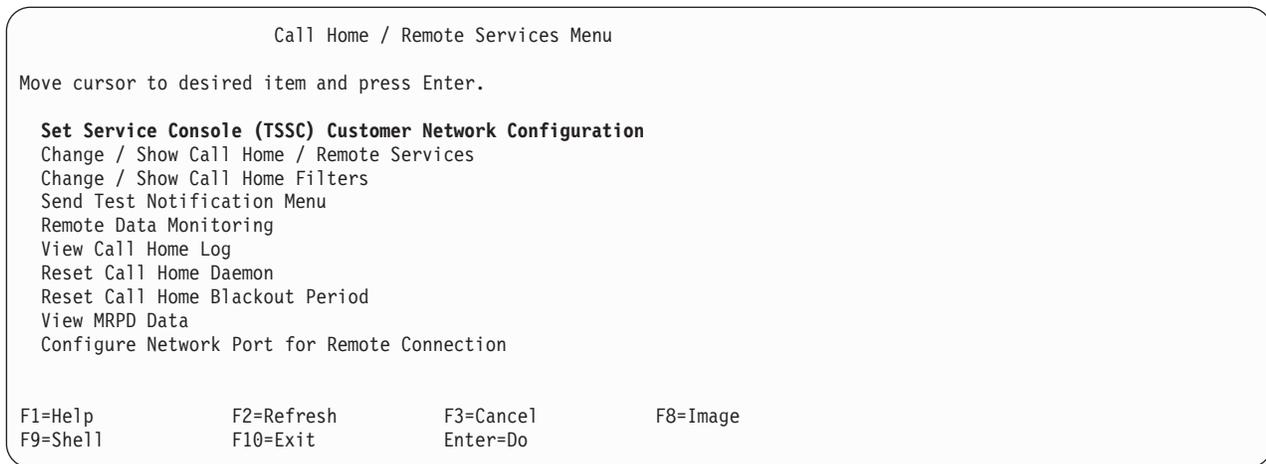
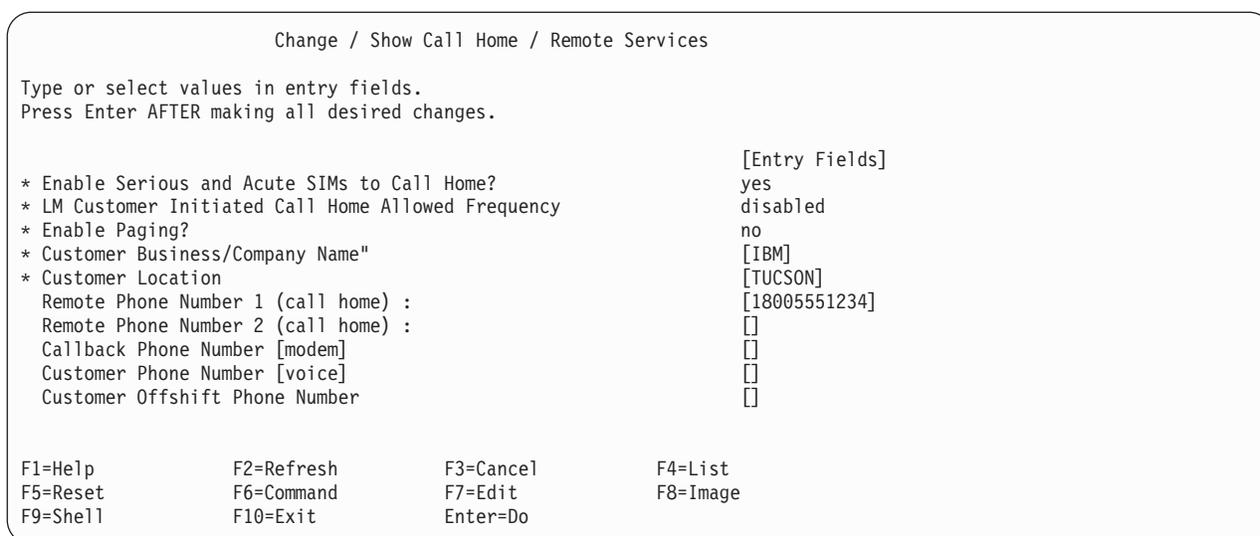
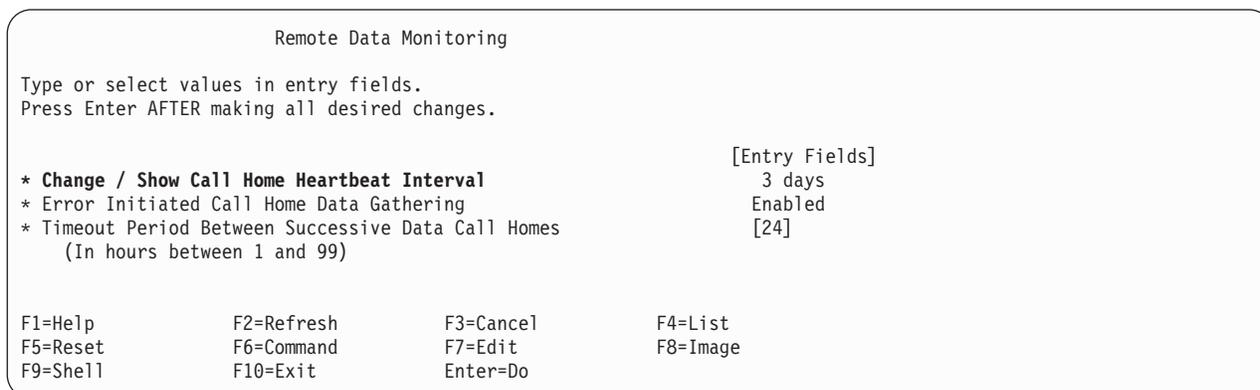

Figure 20. Call Home / Remote Services Menu
Figure 22. Change / Show Call Home / Remote Services Menu
Figure 23. Call Home – Remote Data Monitoring Menu
7. Press **F3** to return to Figure 20. Select **Change / Show Call Home / Remote Services**. Figure 22 on page 23 displays.
8. At Figure 22, verify that Serious and Acute SIMs to Call Home is enabled. If it is not enabled, highlight the text, and press **F4**. Move the cursor to **yes**, and press **Enter**.
9. Press **F3** to return to Figure 20 on page 22. Select **Remote Data Monitoring**. Figure 23 displays.
10. At Figure 23, verify that Call Home Data Gathering is enabled. If it is not enabled, highlight the text, and press **F4**. Move the cursor to **Enabled**, and press **Enter**.
11. Press **F3** to return to Figure 20 on page 22. If more attached subsystems need configuration exit the EBTERM or NetTerm session and connect the net subsystem.